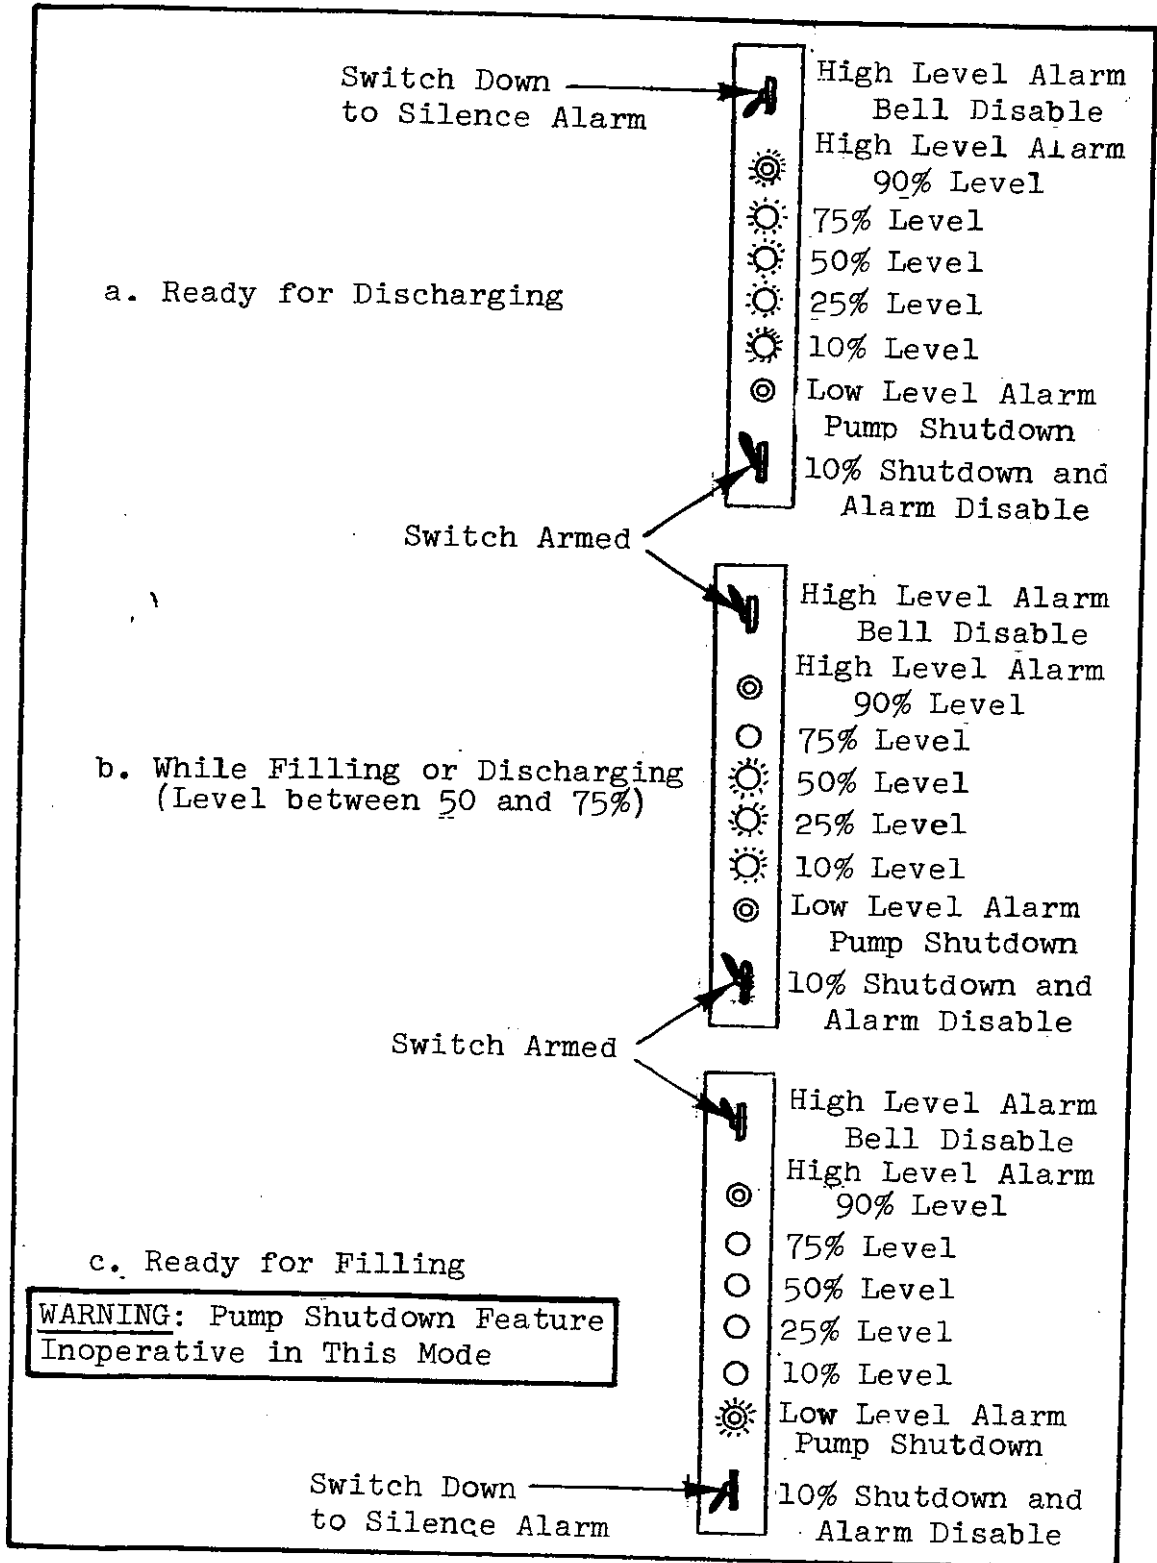

FIGURE A-8
(3) Transfer cargo from one tank (DRAIN) to another (FILL) with one pump at up to 300 gpm and with two pumps at over 400 gpm. Discharge pressure will only be a few psig.
(4) Trim barge by gravity in a few hours by placing all cargo manifold valves in DRAIN position.
(5) Pumps will stop automatically when the tank level falls to 10% capacity, if the corresponding "10% Shutdown Alarm Disable" switch is armed, i.e., on or up.
(6) A tank may be stripped by flipping its "10% Shutdown Alarm Disable" switch down to the off position. Note the Warning in Figure A-8. Pump seals may be damaged if the pump runs dry for an extended period. The pump may require priming after stripping a tank (Item 1, above).
(1) The system is activated with the 24v DC power (breaker) switch on the panel. When turned on, the bell may ring once because of transient surges. If it rings continuously, one or more tanks are either at the 10% or 90% level. Silence the bell by flipping the corresponding alarm disable switches down to off. The remaining switches should be flipped up so that the alarm system is armed to give warning to changing status in the tanks. Typical conditions for the panel are illustrated in Figure A-8.